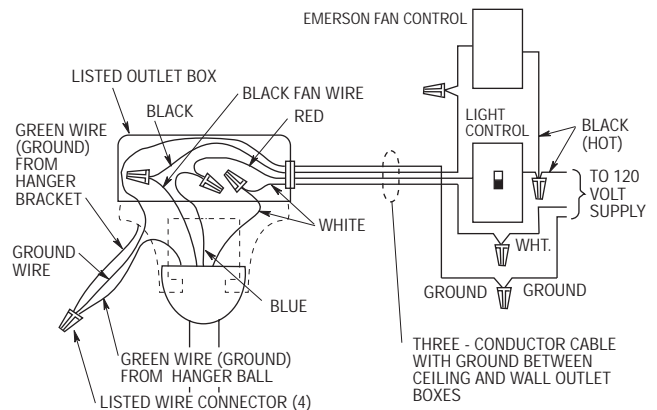

Figure 11
16. For a wall control installation you will need a three-wire (with ground) conductor cable between the ceiling and wall outlet boxes. This will allow you to control the fan separately from the lights. Figure 11 is a basic wiring diagram that will control the uplight and downlight on a switch and the fan on a separate control. Refer to the installation instructions and wiring diagrams supplied with the Emerson Fan Control Owner's Manual.